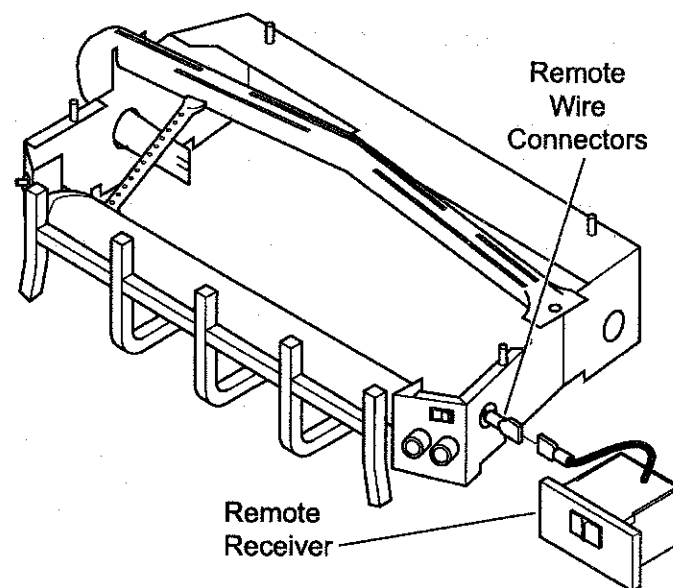

Figure 20 - Installing Remote Receiver
5. Connect the connectors to the two .25" male connectors located on the right side when facing the unit (Figure 20). Do not let the wire touch the grate or burners.
6. Stick velcro pads with self-adhesive backing to side of remote receiver and to the right side of the unit. See Figure 20.